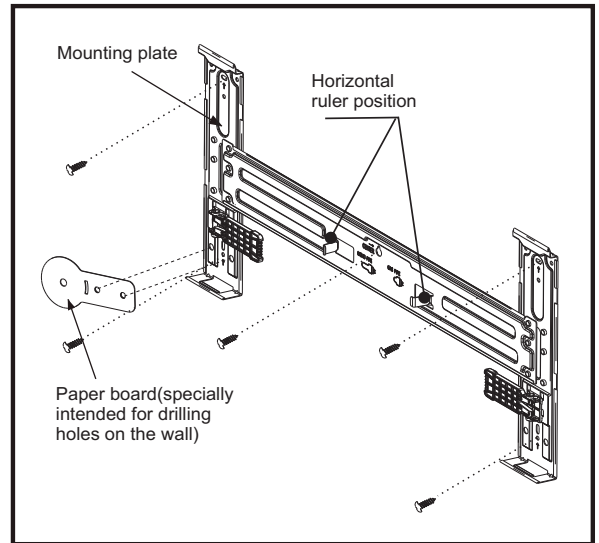

Fig. 1
- 6) Align the 2 holes of the paper board with the 2 holes of the mounting plate as shown in Fig. 1.
- 1) Decide the position of hole for piping according to the location of mounting plate (see the position and size of the paper board as shown in Fig. 1).
Note: If you have a hole on the wall, you need to align the round part of the paper board with the hole on the wall. Then align the 2 holes of the mounting plate with the 2 holes of the paper board (shown in fig. 1) to decide the installing location for the mounting plate.